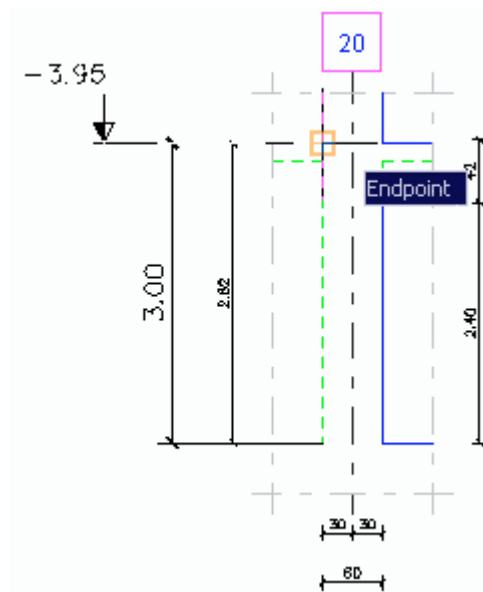

Figure 342: Left cut A-A - setting the dimension origin
3. Select the dimension origin as shown in Figure 342.